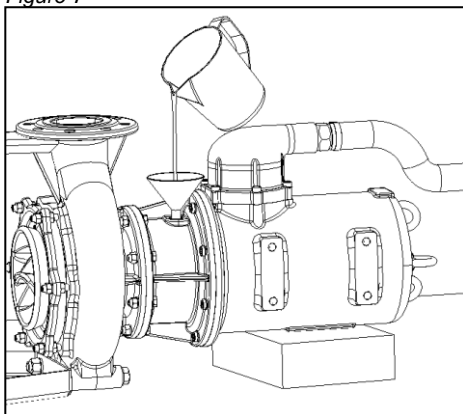

Figure 9
2. Drain off the oil (figure 9)